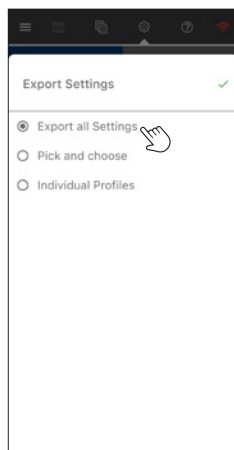

Figure 1
Step 2: In the popup window, select one of the three options (Figure 1, 2 and 3) then tap the **checkmark** button to confirm the selection